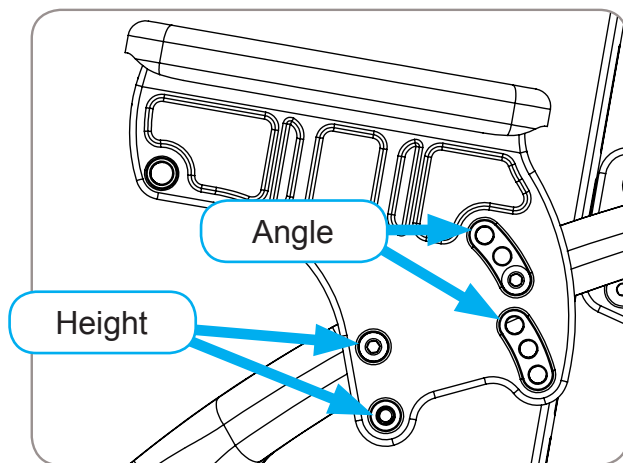

Figure 28
1. Remove rear button head bolts (2). 4mm hex wrench required. Reference Figure 28.